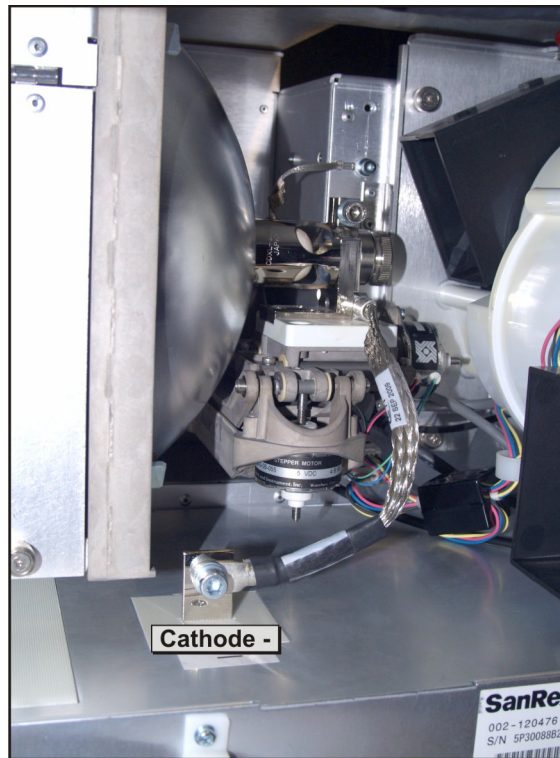

Figure 5-26 Remove Anode and Cathode Screw
8. Remove the screw from the cathode (- terminal on the LPS). (**Figure 5-26**)